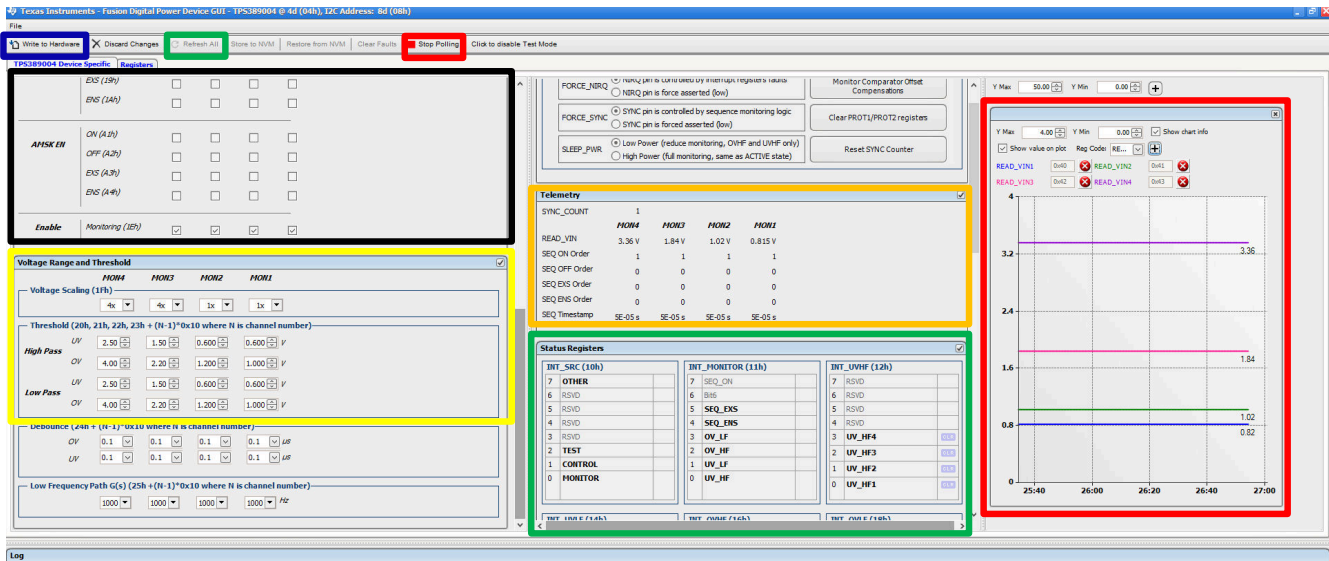

Figure 4-17. TPS389006Q1EVM GUI Setup for Monitoring Four Voltage Supply Rails
9. Scroll to the bottom of the *Interrupt Enable* sub-window and enable all four monitoring inputs by clicking the empty boxes. The GUI image, Figure 4-17 below, shows all the monitoring inputs being selected in the highlighted "black-box".
10. In the *Voltage Range and Threshold* sub-window, enter the undervoltage (UV) and overvoltage (OV) threshold values for the monitoring inputs. One thing to note, any monitoring inputs that are higher than 1.5 V needs to select *4x* in the *Voltage Scaling (1Fh)* field. The GUI image below, highlighted by a *yellow-box*, shows is described above.
14. Steps 8 through 13 refers to Figure 4-17 below.